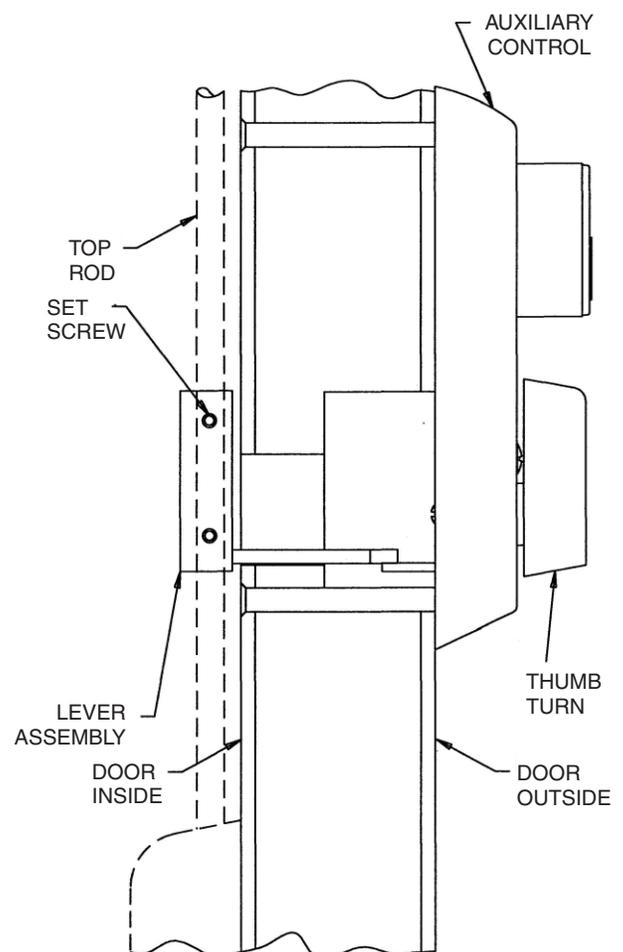

Fig. 2
2. Prepare the door for the Auxiliary Control (Fig. 2).
3. Slide top rod into lever assembly and position lever as indicated (Fig. 2). Adjust top rod according to exit device instructions.